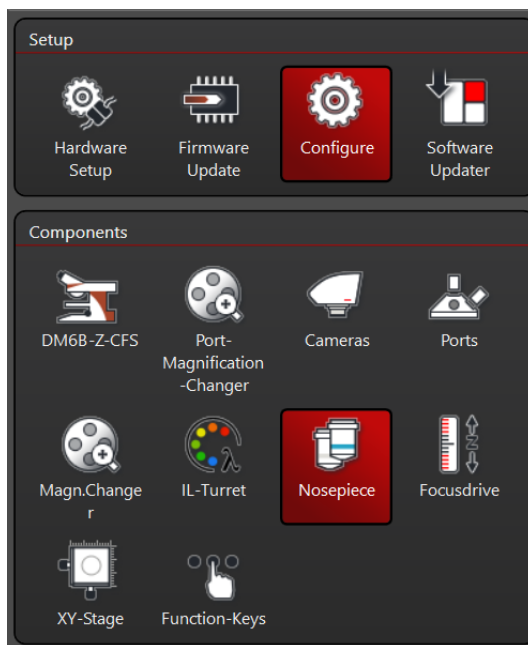

Figure 6
3. Click on **Configure** (gear icon). See Figure: 6
4. In the list of components, click on **Nosepiece**. See Figure: 6